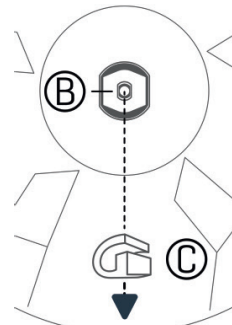

Figure 3
- 1 Screw cymbal seat (D) on an 8 mm cymbal arm (F).
- 2 Place the cymbal (C) on the cymbal seat (D), followed by the spin lock (B).
- 3 Orient the spin lock (B) in the cymbal mold as shown in *Figure 3*.